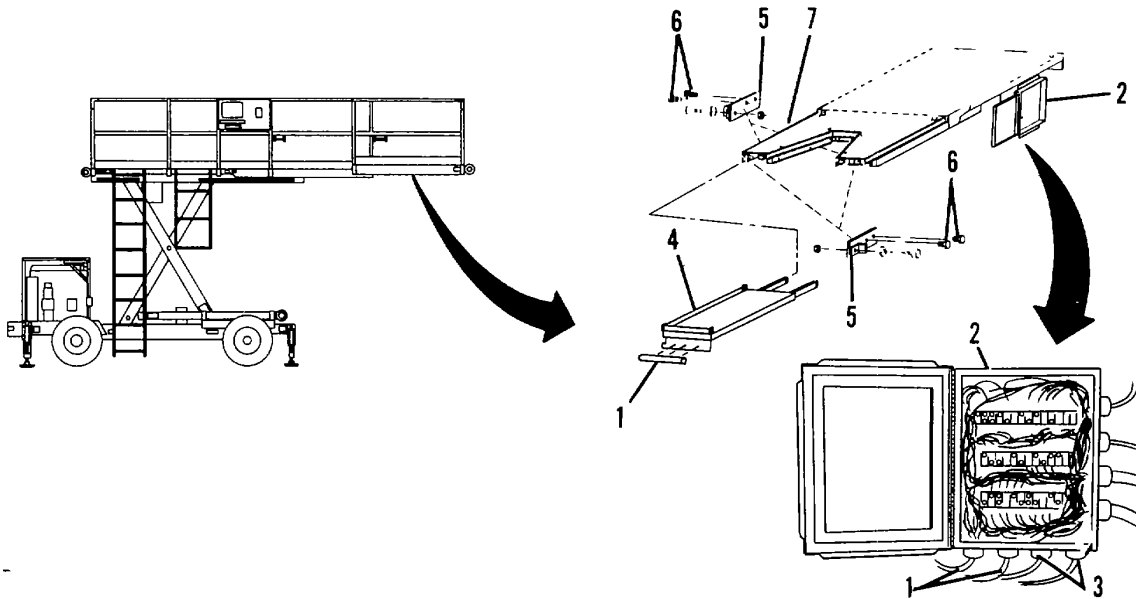

Figure 4-29. Deck Extension.
- (1) Remove plastic ties that secure bumper wires to the deck and discard.
- (2) Tag deck extension bumper wires at the platform junction box for ease of identification during installation.
- (3) Disconnect the bumper wires (1, Figure 4-29) at the platform junction box (2).
- (4) Cut terminals from wires. Remove strain relief (3). Tie about 20 ft (6 m) of string to wires and pull wires through conduit.
- (5) Extend the deck (4) approximately 3/4 of its length.
- (6) Install a 2 x 4 x 12" block between platform and frame.
- (7) Support deck extension using chains and slings.
- (8) Tag camfollower assemblies (5) left and right for ease of reassembly.
- (9) Remove four capscrews (6) securing four camfollower assemblies (5) to platform frame. Remove camfollower assemblies.